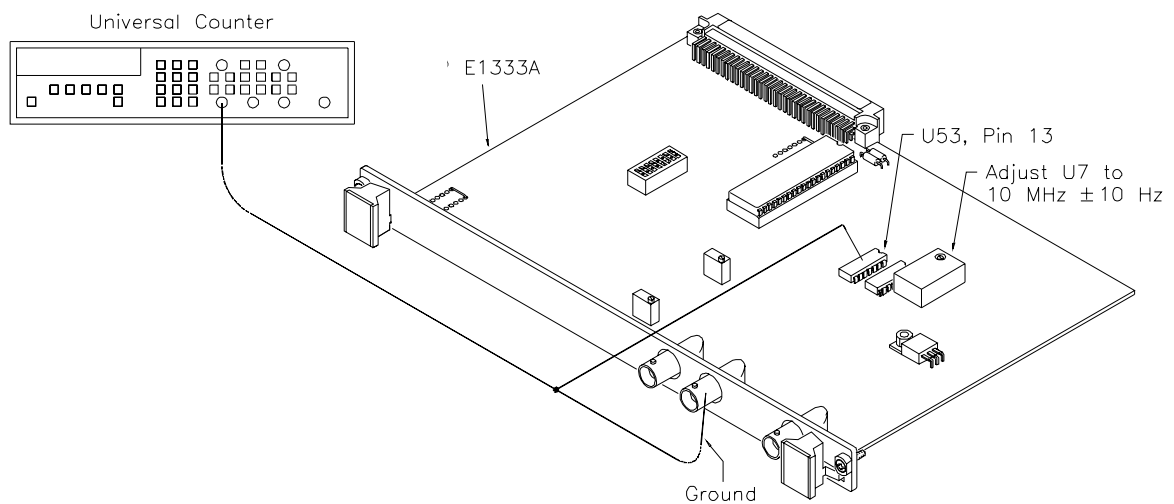

Figure 5-1. Reference Oscillator Adjustments
1. Connect Channel A of the Agilent 5334B Universal Counter to the output of the 10 MHz reference oscillator (U53 pin 13) (see Figure 5-1).